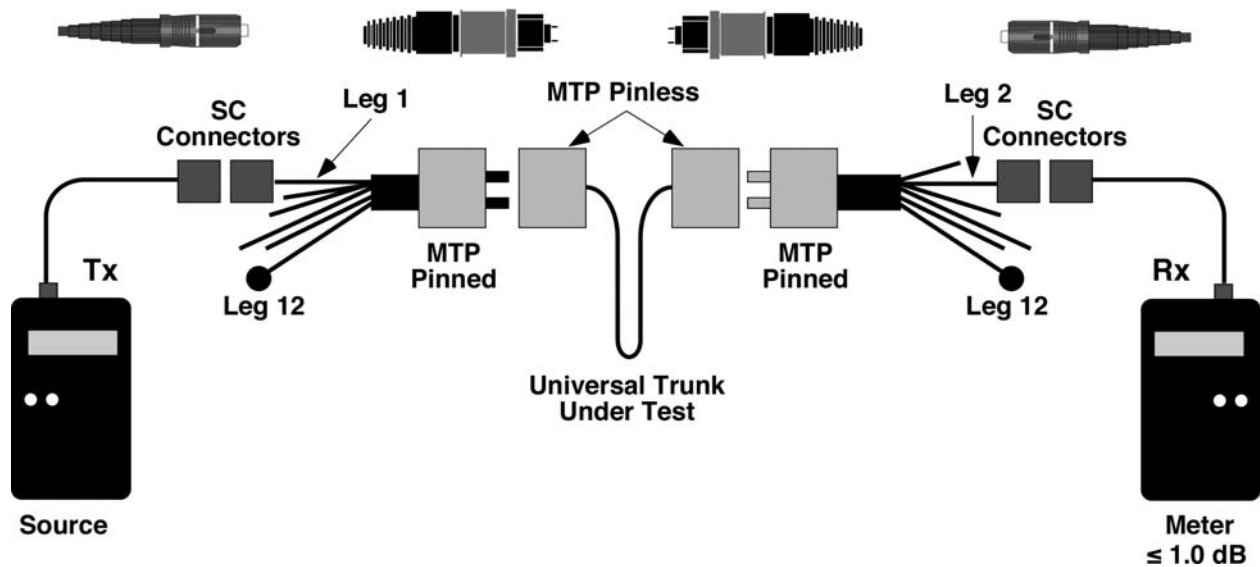

Figure 5: Testing the MTP Link, Starting with the Fiber 1-2
The system is now ready to test. Without disconnecting from the units, take source and meter to the distant ends of the system (Figure 5 at the end of this document).
- b) Disconnect leg number 1 of the SC to MTP pinned jumper and the fiber number 2 of the second SC to MTP pinned jumper (as shown in figure 5) and continue testing the rest of the fibers in the order shown in table 1. Record the measurement for the 12 fibers.